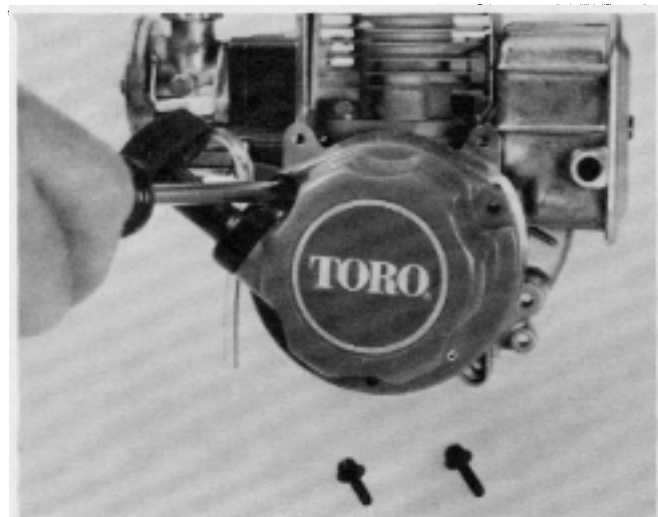

Figure 60
2. Secure with three machine screws. Note that the longer screw is used in the bottom hole and that the upper left hand screw has a small retaining bracket for the overflow line. See Fig. 60.